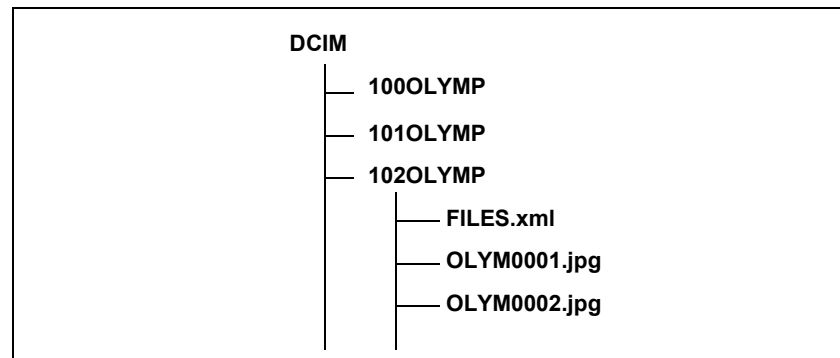

Figure 5.75
Figure 5.75 shows an example of the image files/folders structure on the PC card.
- If you open the image file not using the xml. file, the endoscopic image and the data cannot be displayed in one image. The file names that are displayed by other than the xml. file are different from those in Figure 5.75.